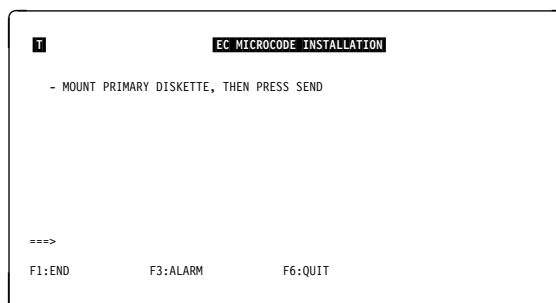

Figure 11-26. EC Installation, Mount Primary Diskette Screen
8. Press **SEND**. Screen **T** is displayed (Figure 11-26).